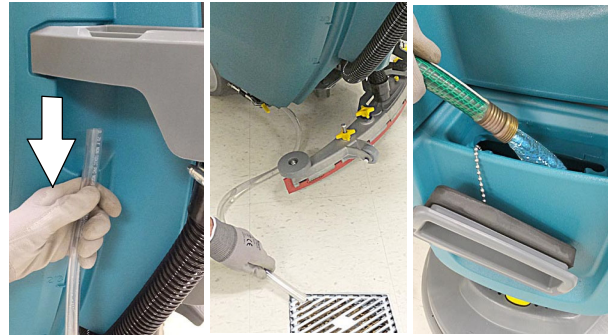

FIG. 90
4. Drain and rinse out the solution tank (Figure 90).